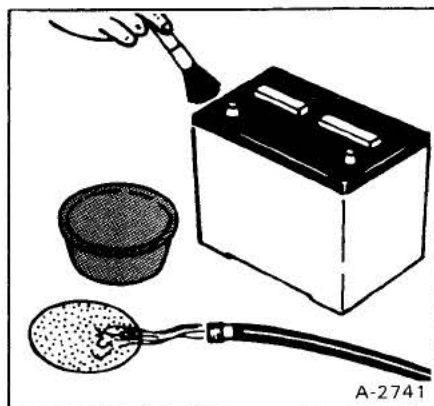

Fig. 58 Cleaning Battery
2. Check to see that the battery cables are clean and tight. Remove any acid or corrosion from the battery and cables with a baking soda and water solution (Fig. 58). Cover the terminals with Clark Battery Saver to prevent corrosion.